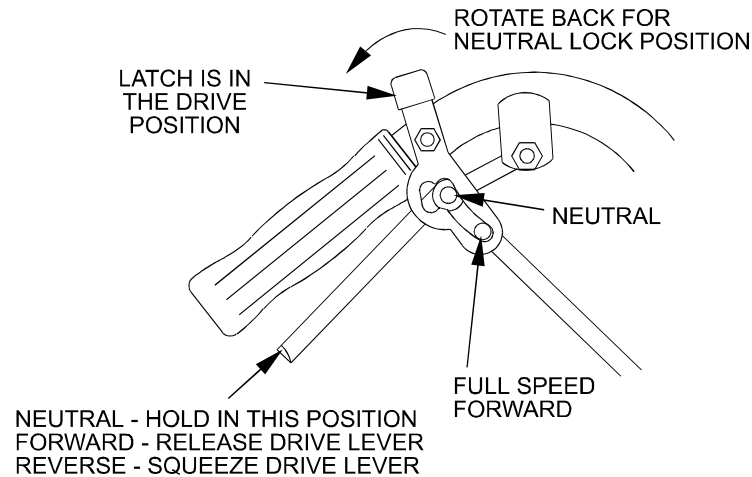

FIG. 4
4.1.1 Drive Levers: Located on each side of the upper handle assembly directly below the handle grips (See Figure 4). These levers individually control the speed and direction of each drive wheel. When the speed control lever is moved out of the neutral position and the neutral lock latches are moved into the drive position, as shown in Figure 4, and the drive levers are released, the drive wheels are engaged in the forward direction.
- 4.1.2 **Neutral Lock Latch:** Located directly above the drive levers. These latches allow the operator to lock the drive levers in a "neutral" position where neither of the drive wheels are engaged in either a forward or reverse direction. See Figure 4.
4.3.3 Drive Lever/Neutral Lock Latch Operation: To lock the drive levers in neutral, squeeze the drive levers back to the neutral position (**Do Not squeeze the drive levers all the way back as this will cause the drive wheels to go into full reverse direction**). Place thumbs on the upper portion of the neutral lock latches and move them to the rear. Release drive levers (See Figure 4).
For straight ahead motion, smoothly release both drive levers to engage drive wheels. Squeeze the right hand drive lever to turn right and the left hand drive lever to turn left. To make a “zero turn”, squeeze either the left hand or the right hand drive lever back into the reverse position while the opposite drive lever is in a forward position at an equal but opposite speed. To back up, squeeze both drive levers into the reverse position (See Figure 4).